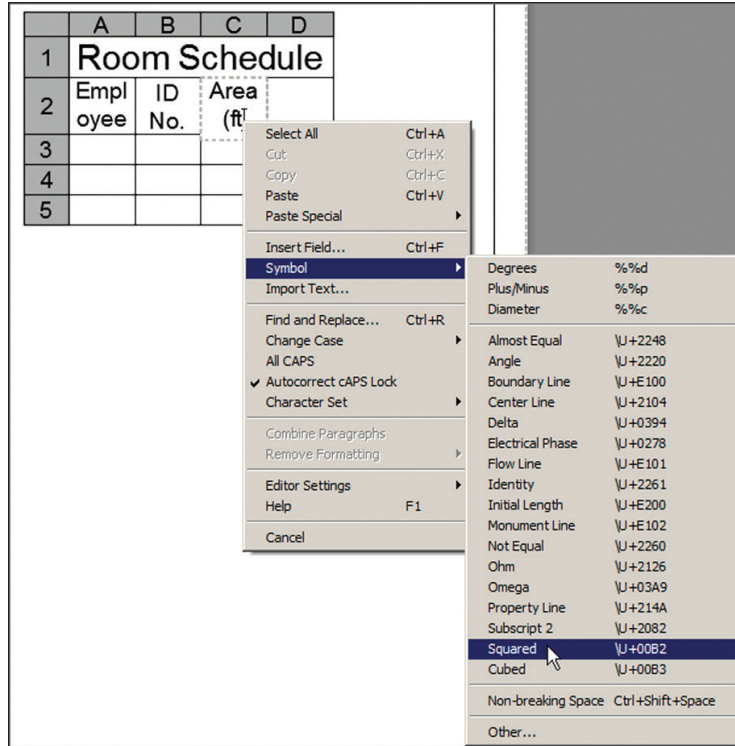

FIGURE 15.19 Accessing the symbol for squared
- Right-click to open the context menu. Select **Symbol** > **Squared** as shown in Figure 15.19. Type **)** and press **Tab**. Now the column header indicates an area in square feet (or square meters). Click outside the table on the layout to deactivate it.